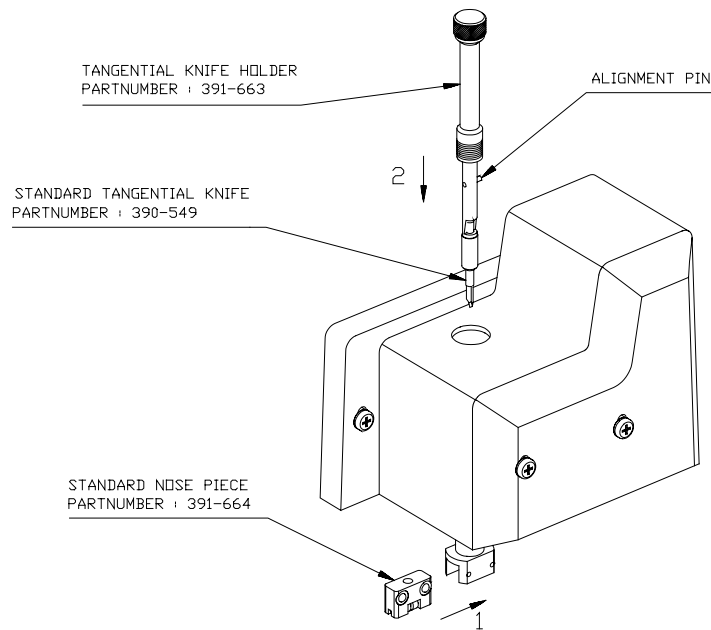

FIGURE 1-5:
2. Insert the **grey** nose piece as shown in Figure 1-5 until it clicks into place inside the nose piece holder.
3. Gently insert the knife into the tool shaft as shown in Figure 1-5. Hold the nose piece in place with one hand and, with the other hand, turn the knife holder counterclockwise until the alignment pin fits into the small notch of the tool shaft. Now turn the knife holder clockwise until its threads take hold inside the tool shaft.